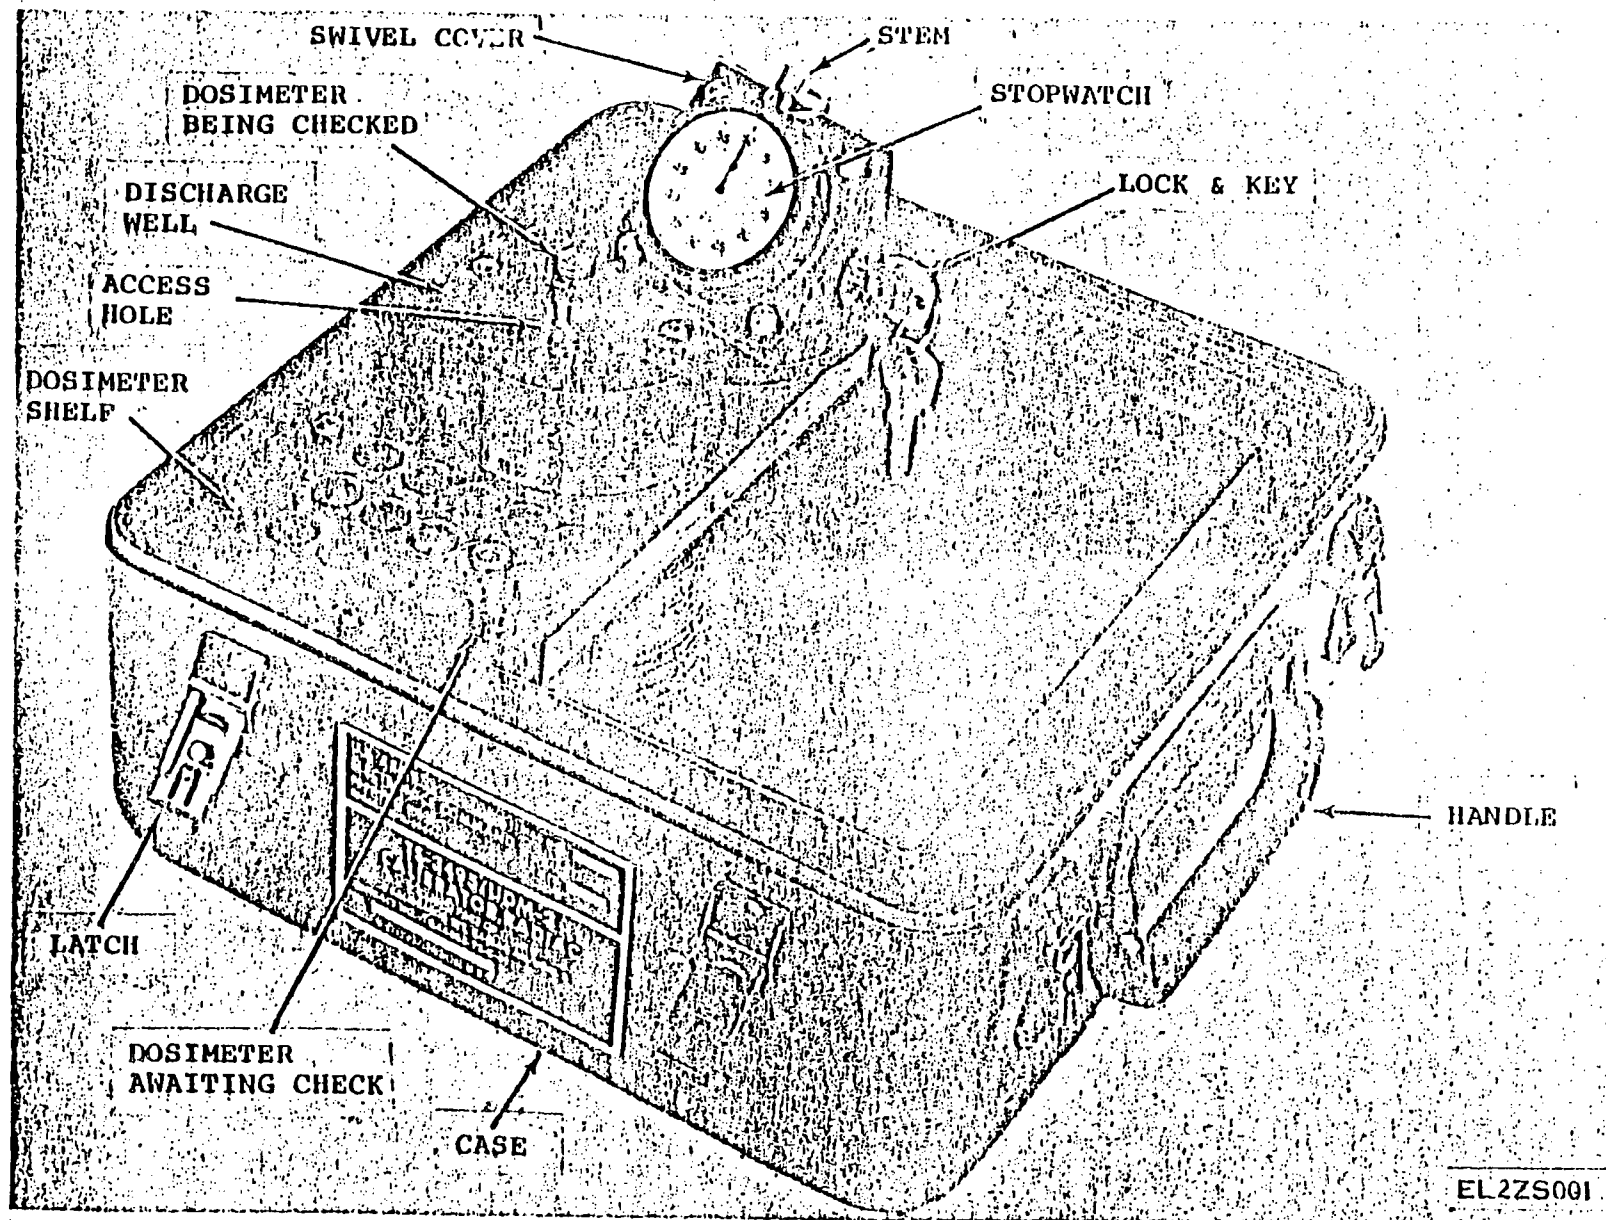

Figure 1-2 Calibrator, Radac TS-3495/UDM-2.
a. *Calibrator, Radiac TS-3495/UDM-2* (fig. 1-2). The discharge well assembly consists of a discharge well, a
*a.* Release the shipping locks of both assemblies (figs. 1-2 and 1-3) by rotating the captive screws counterclockwise. The shipping locks are spring-loaded, will spring outward when fully unscrewed, and will release the latches.
b. On the discharge well assembly (fig. 1-2), check the functioning of the stopwatch (table 3-1).
Radioactive materials are used in this equipment. Read and understand all operational data and procedures in this chapter *before* using the equipment. Become thoroughly familiar with the contents of TB 11-6665-227-12. Never look directly into the access hole (fig. 1-2) when the swivel cover is swung open; do not poke sharp pointed objects into the access hole. This equipment will be used only under the direction of a Radiological Protection Officer.
TS-3495/IDM-2 (fig. 1-2):